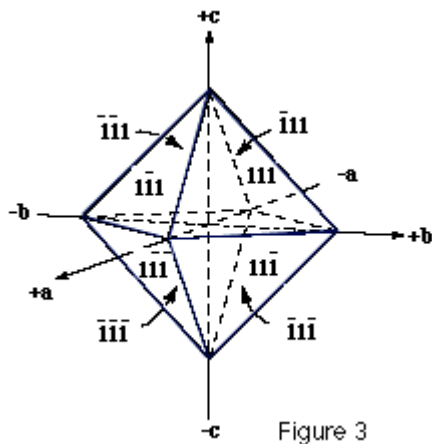

Figure 3
Let us first describe a face of an octahedron and later a cube using Miller's indices. First, we should realize that an octahedron is an eight-sided crystal form that is the simple repetition of an equilateral triangle about our 3 crystallographic axes. The triangle is oriented so that it crosses the a_1 , a_2 , and a_3 axes all at the same distance from the axial cross. This unit distance is given as 1. Dividing 1 into the whole number 1 (it's a reciprocal, remember?) yields a value of 1 for each Miller number. So the Miller indices is (111) for the face that intercepts the positive end of each of the 3 axes. See Figure 3 for all possible numbers for the 8 faces. Note: A bar over the number tells me that the intercept was across the negative end of the particular crystallographic axis. The octahedral form is given the letter designation of "o".